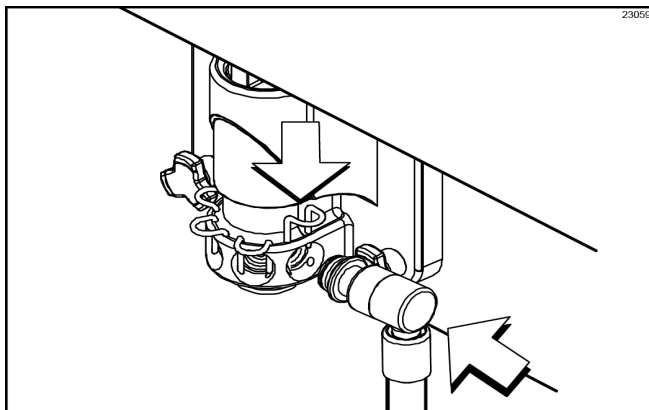

Figure-37
**Repeat this procedure** for each syrup valve. (See Figure-37.)